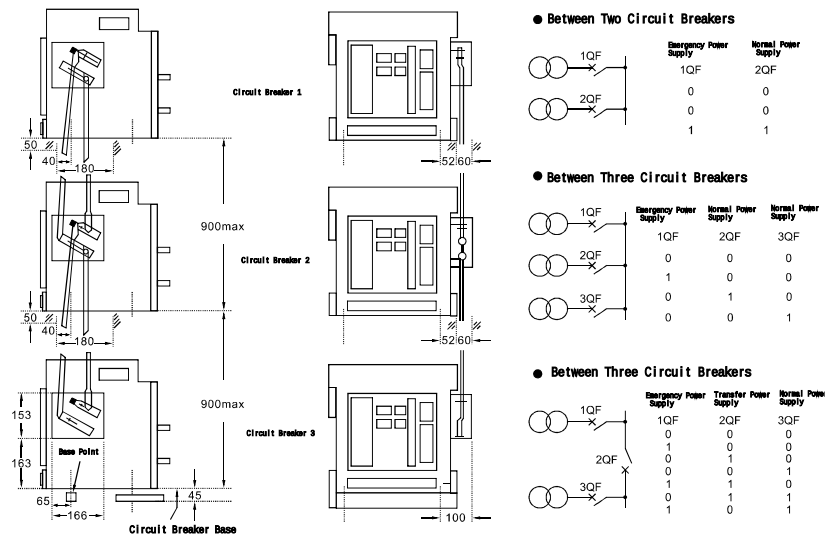

Figure 5(a)
- The lever interlock is shown in Figure 5(a).